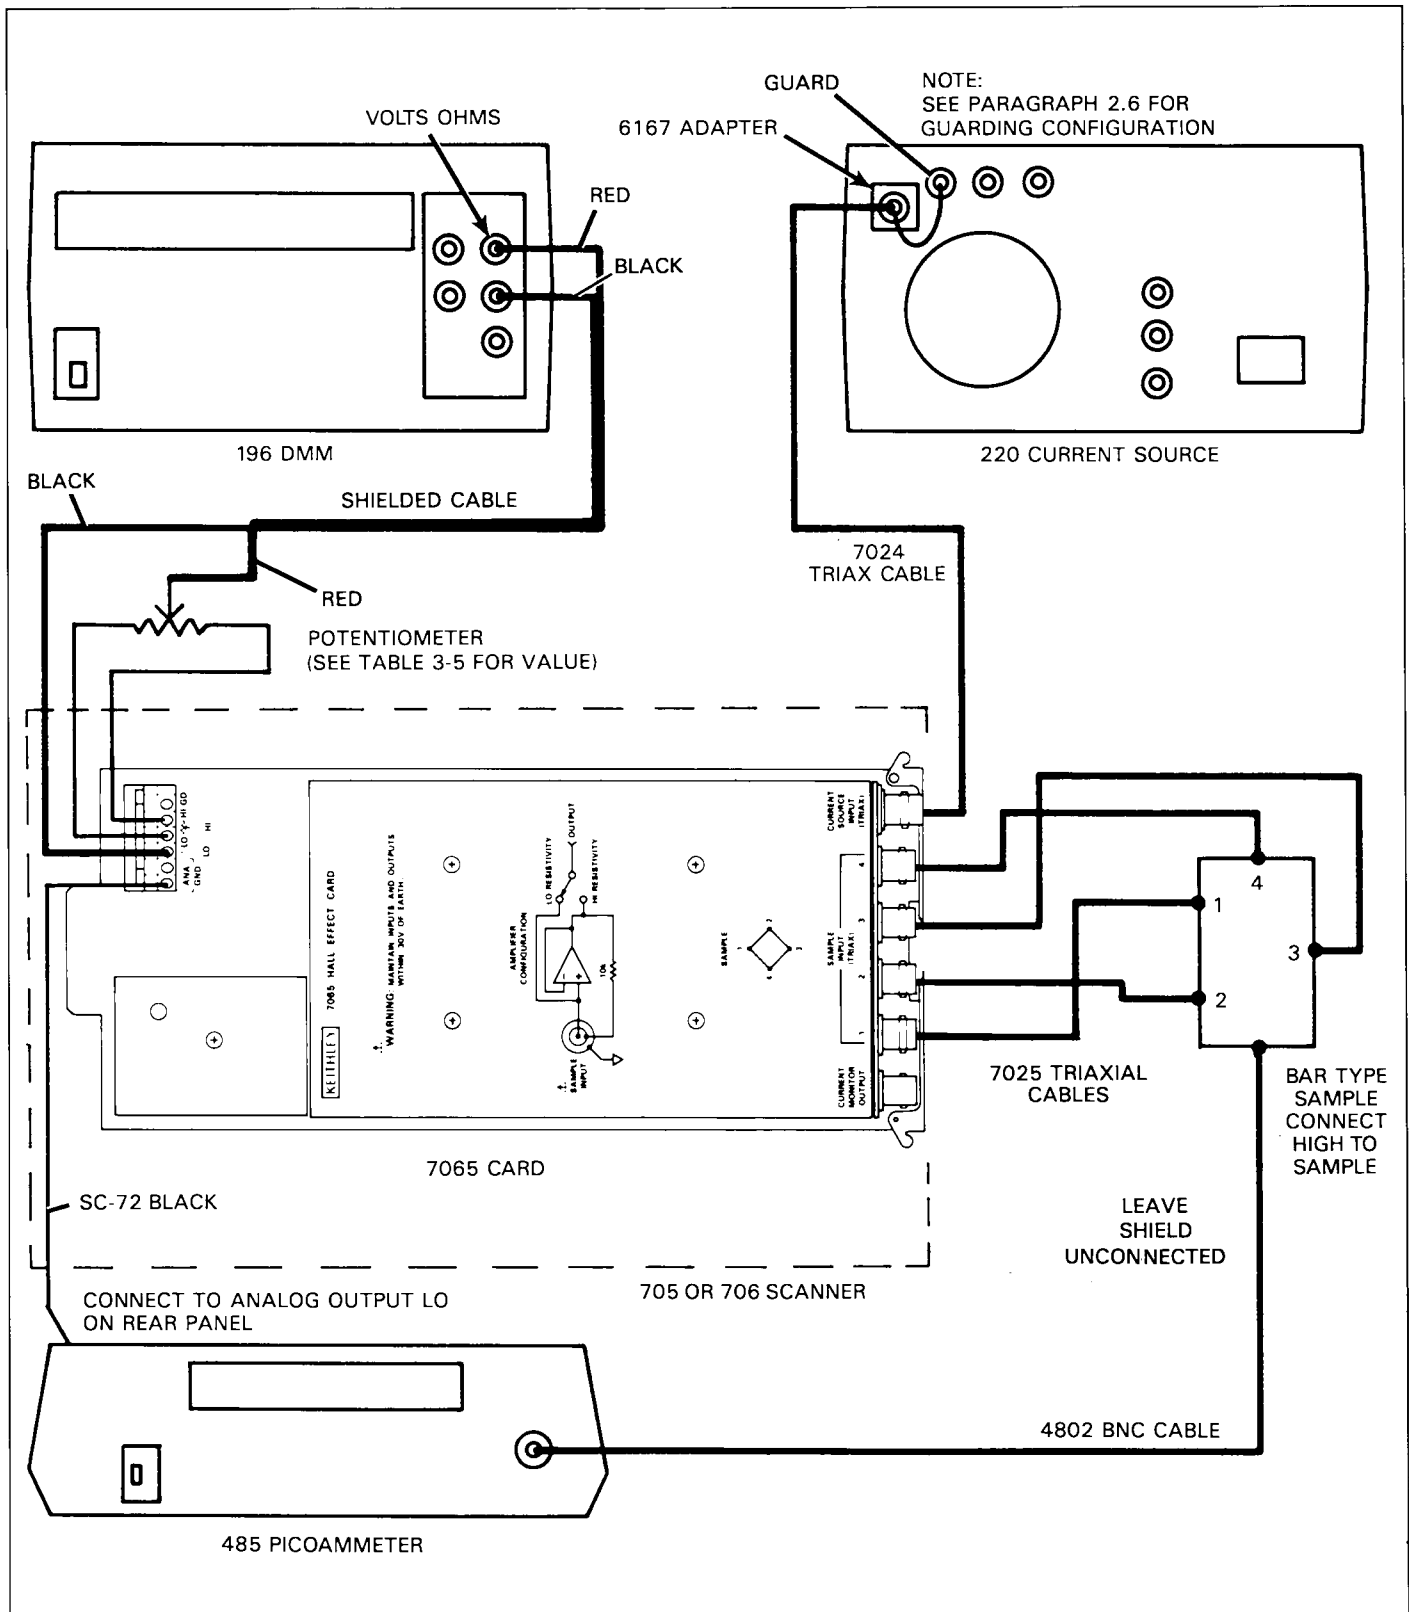
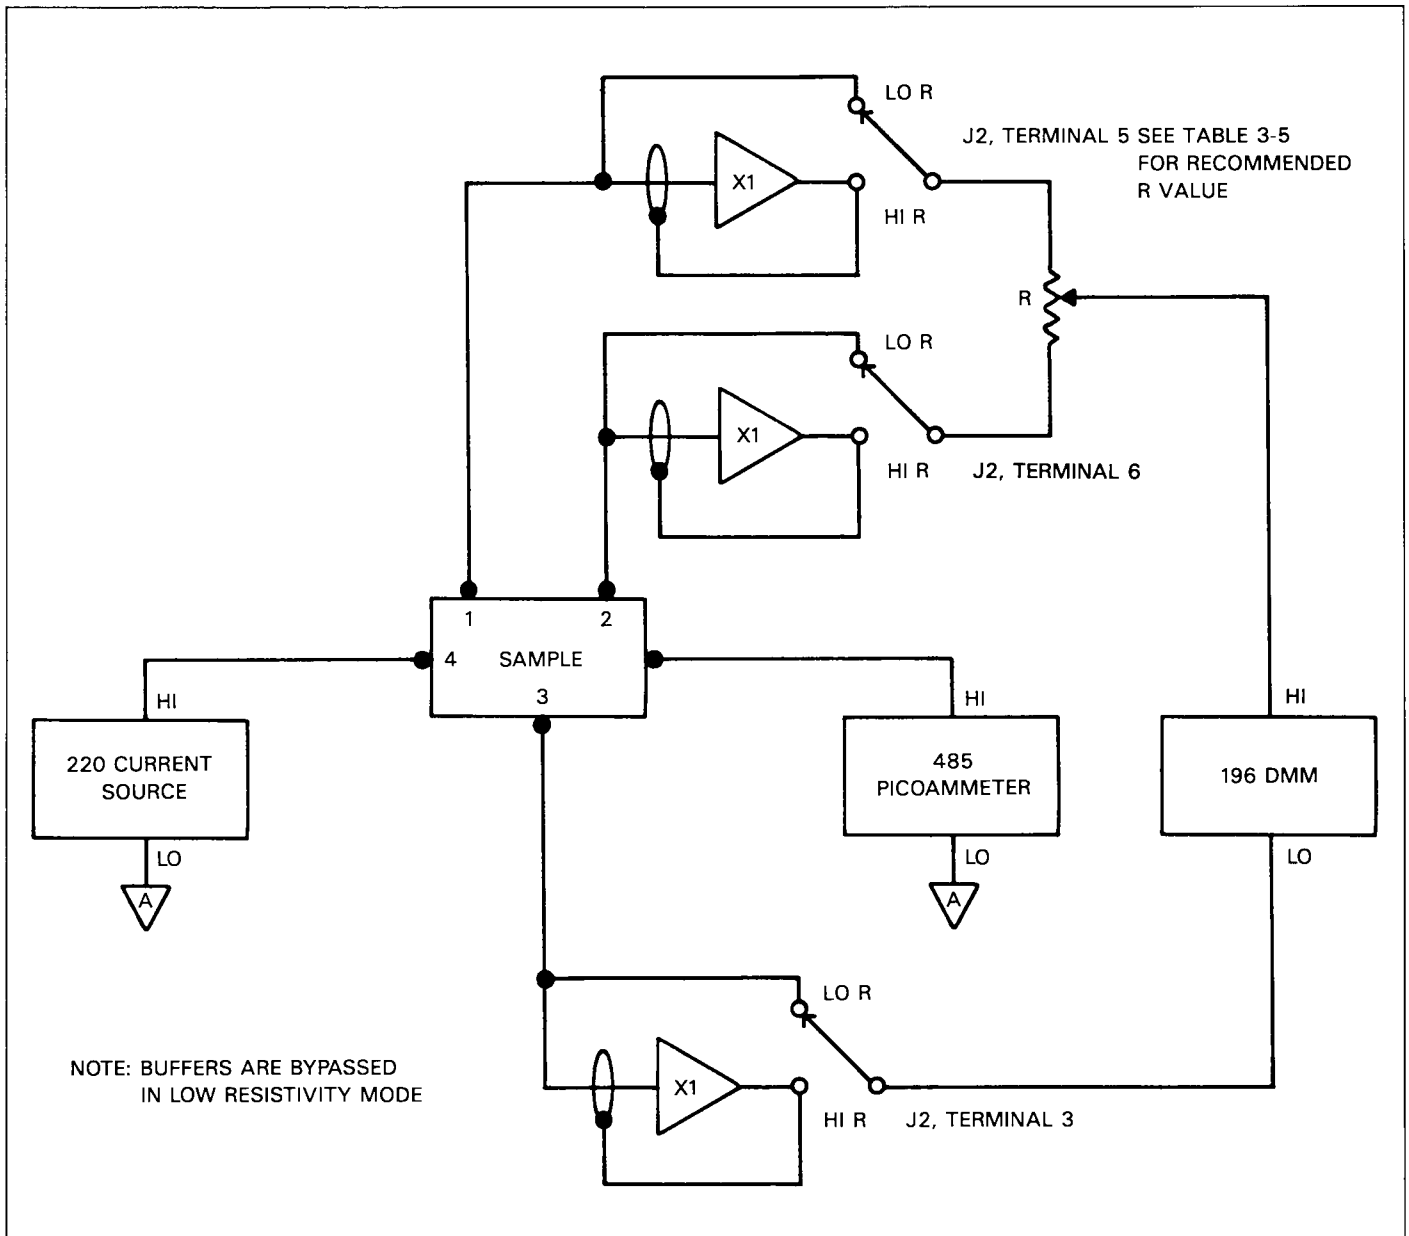

Figure 2-9. Connections for Hall Voltage Measurements of Bar Type Samples
Figure 2-10. Equivalent Circuit for Hall Voltage Measurements of Bar Type Samples
Use the basic scheme shown in Figure 2-9 for Hall voltage measurements on bar type samples. Figure 2-10 shows an equivalent circuit.
1. Connect the sample to the SAMPLE INPUTS, as shown in Figure 2-9. Use the supplied 7025 triaxial cables (see paragraph 2.4.3 for preparation).